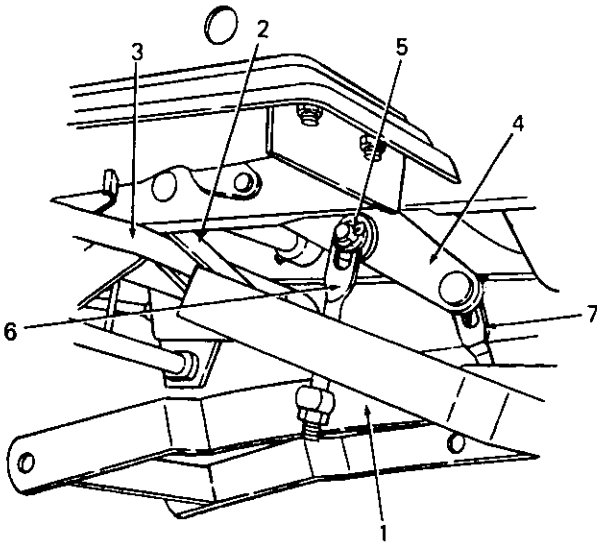

Figure 11
- On **Standard Garden Tractors only**, engage the center frame bar with the cross shaft located under the tractor. Refer to Figure 11.
- Attach each of the lift links to the appropriate rockshaft lift arm using a flat washer and cotter pin. Refer to Figure 11.